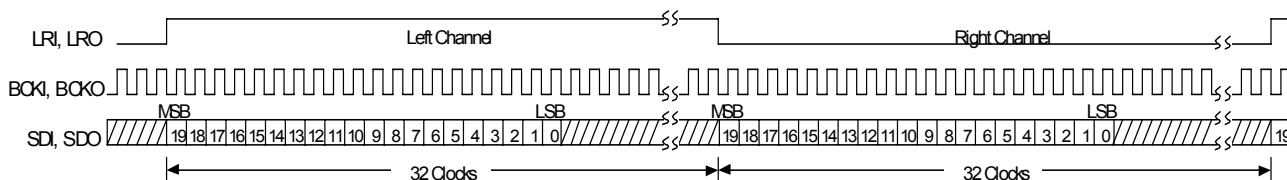
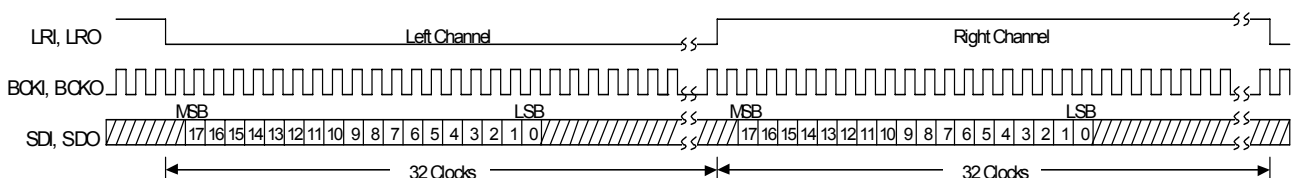

Fig. 4-5 Left-Justified Data Format 64Fs, 20bit Data
Fig. 4-10 I²S Data Format 64Fs, 18bit Data
* The 24bit data is always outputted to a SDO0 pin in the format of figure 4-5 to figure 4-10.